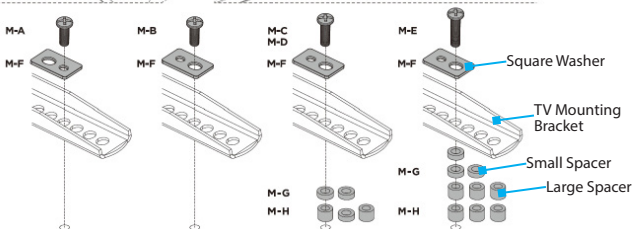

Figure 10b
4. Place the necessary number of **Small (M-G)** and/or **Large Spacers (M-H)** over each **VESA Mounting Hole** on the **TV**. (Figure 10b)
6. Place a **Square Washer (M-F)** on the **TV Mounting Bracket** at each **VESA Mounting Point**, and align the screw hole size on the **Square Washer** to fit the correct **M-Type Screws** for the **TV**. (Figure 10b)
7. Thread the appropriately-sized **M-Type Screws** (e.g. **M5 x 14mm Screws (M-A)**) through the **Square Washers (M-F)**, **TV Mounting Brackets**, (Optional) **Spacers (M-G + M-H)**, and into the **TV**. (Figure 10b)